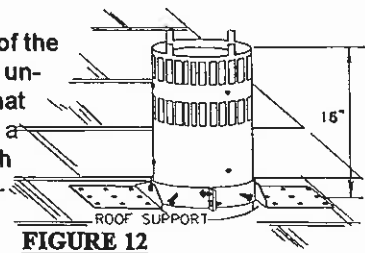

FIGURE 12
5. Thread the air terminal pipe assembly down through the roof. The air terminal must be located vertically and plumb. Attach the air terminal assembly to the roof support, ensuring that a minimum 16" of air terminal will penetrate the roof when fastened. **DO NOT CLAMP THE FLEXIBLE ALUMINUM LINER.** FIGURE 12.